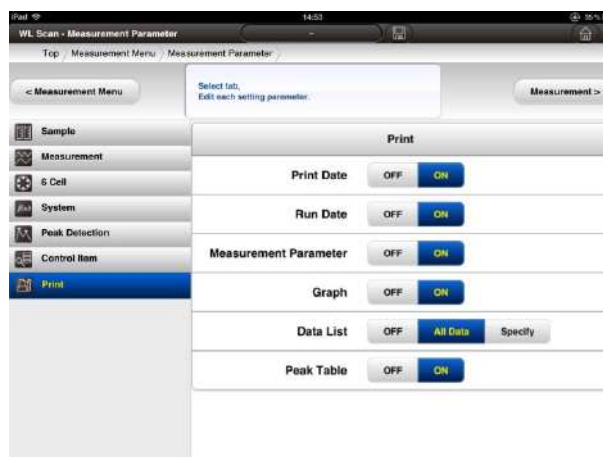

Fig. 4-77 Printing Conditions Window
- (1) Press  [print tab] to set printing conditions.
- (2) The printing conditions window (Fig. 4-77) will then be shown.